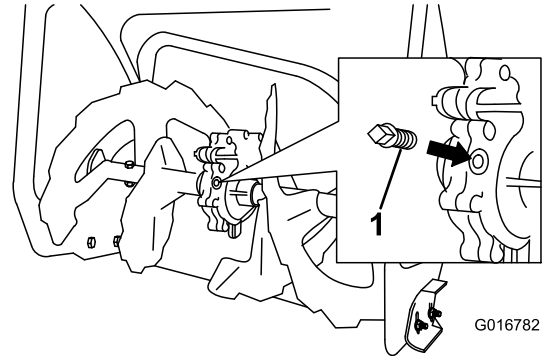

Figure 43
2. Clean the area around the pipe plug (Figure 43).